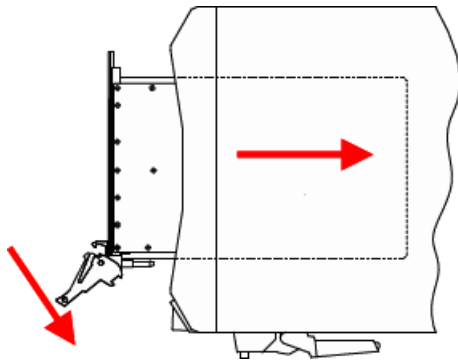

Figure 2-3 Installing the module to the chassis
- 5** Hold the module by the injector/ejector handle, and slide it into an available PXI (or hybrid) slot, as shown in Figure 2-3.